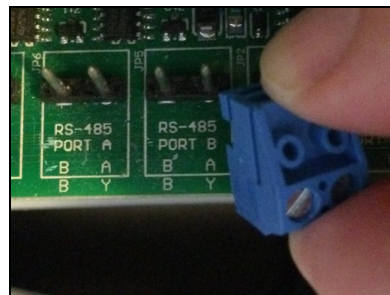

Figure 5 - Removing Blue
- The blue connector can be removed for ease in wiring and to properly identify the correct port. See Figure 5.